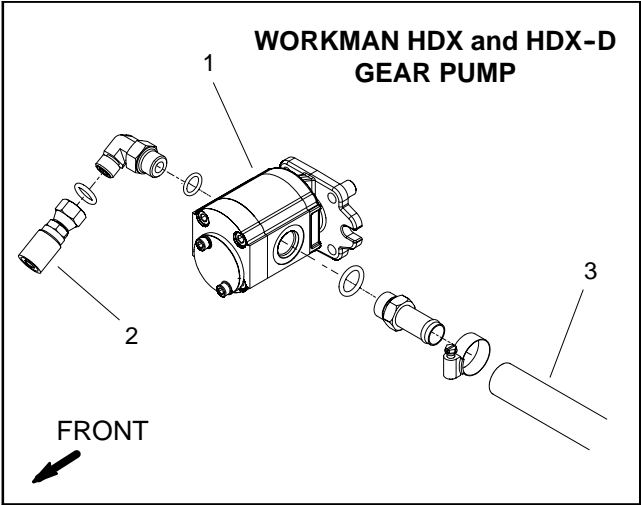

Figure 17
3. With the engine off, clean hose fitting and disconnect the pressure hose from the gear pump (Fig. 17). Install tester with pressure gauges and flow meter in series between the gear pump and the disconnected hose. **Make sure the tester flow control valve is open.**